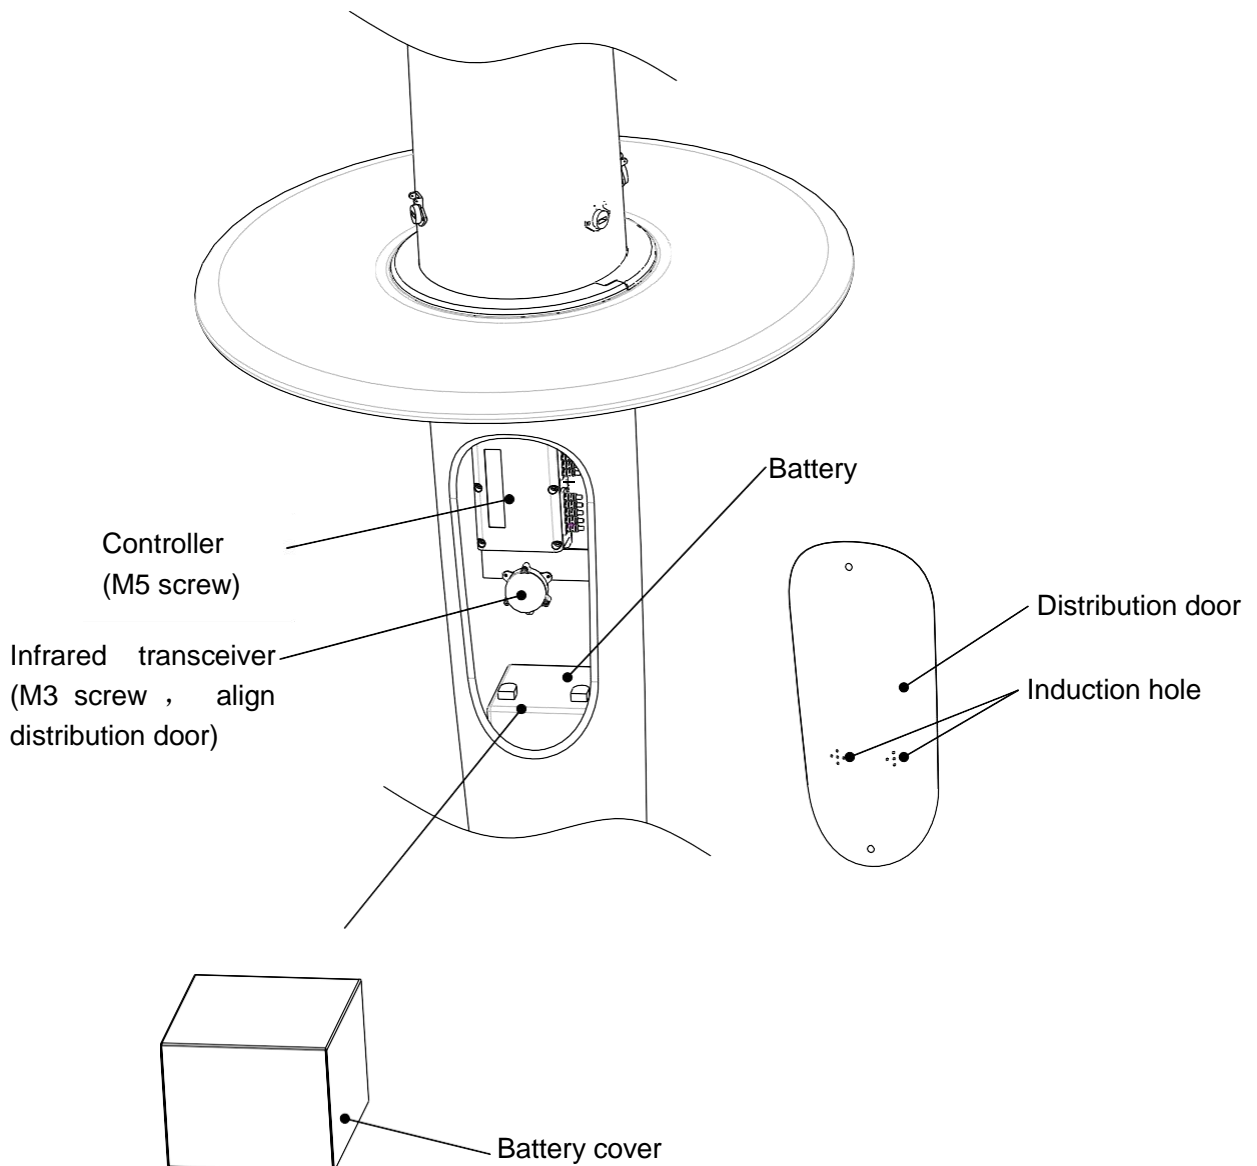

Figure 13
- ① As shown in figure 13 open the inside and put the battery into light pole, then the the battery cover over the batteries.
- ② The controller and the infrared transceiver head is fixed as shown in the following figure 13 on the stator of distribution door, and with a locking screw, infrared transceiver align an induction hole on distribution door.